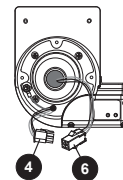

Figure 3
3. Disconnect UV bulb socket (6) from the power cord socket (4), Figure 3.